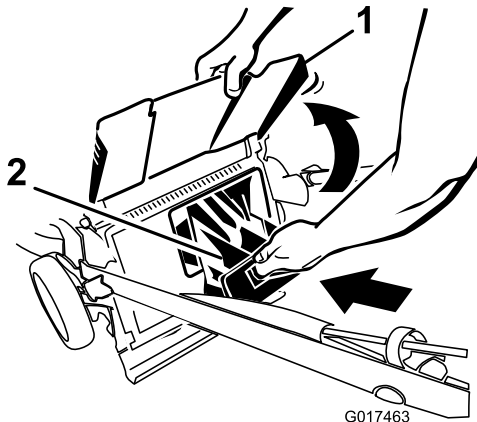
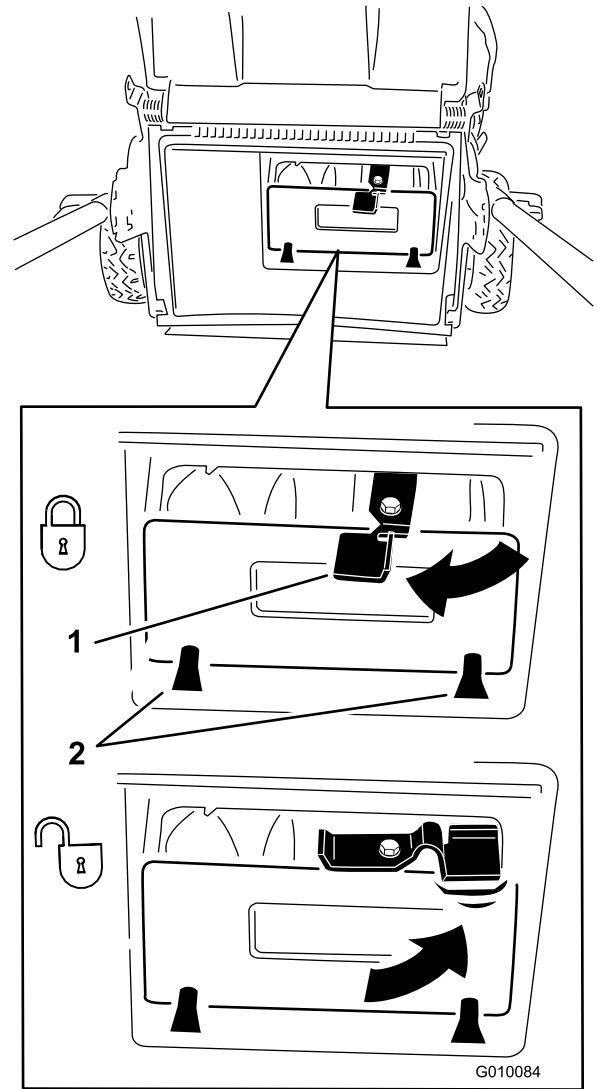

Figure 26
Figure 27
**Important:** Ensure that the rear discharge plug is locked in place. To lock the plug: Raise the discharge deflector (Figure 26), firmly push the plug in until it snaps into place behind the tabs, and rotate the lever on the plug to the left (Figure 27).